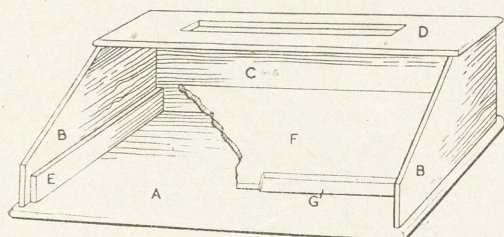

Fig. 2—Showing construction of the desk
A glance at Fig. 2 will show that the desk is glued and nailed or screwed to the base (A) which measures 18ins. by 13ins. by $\frac{3}{8}$ in. It is not essential to have this in one piece. It can be made up of two or more pieces butted and glued together. The sides when screwed in place will strengthen them sufficiently.